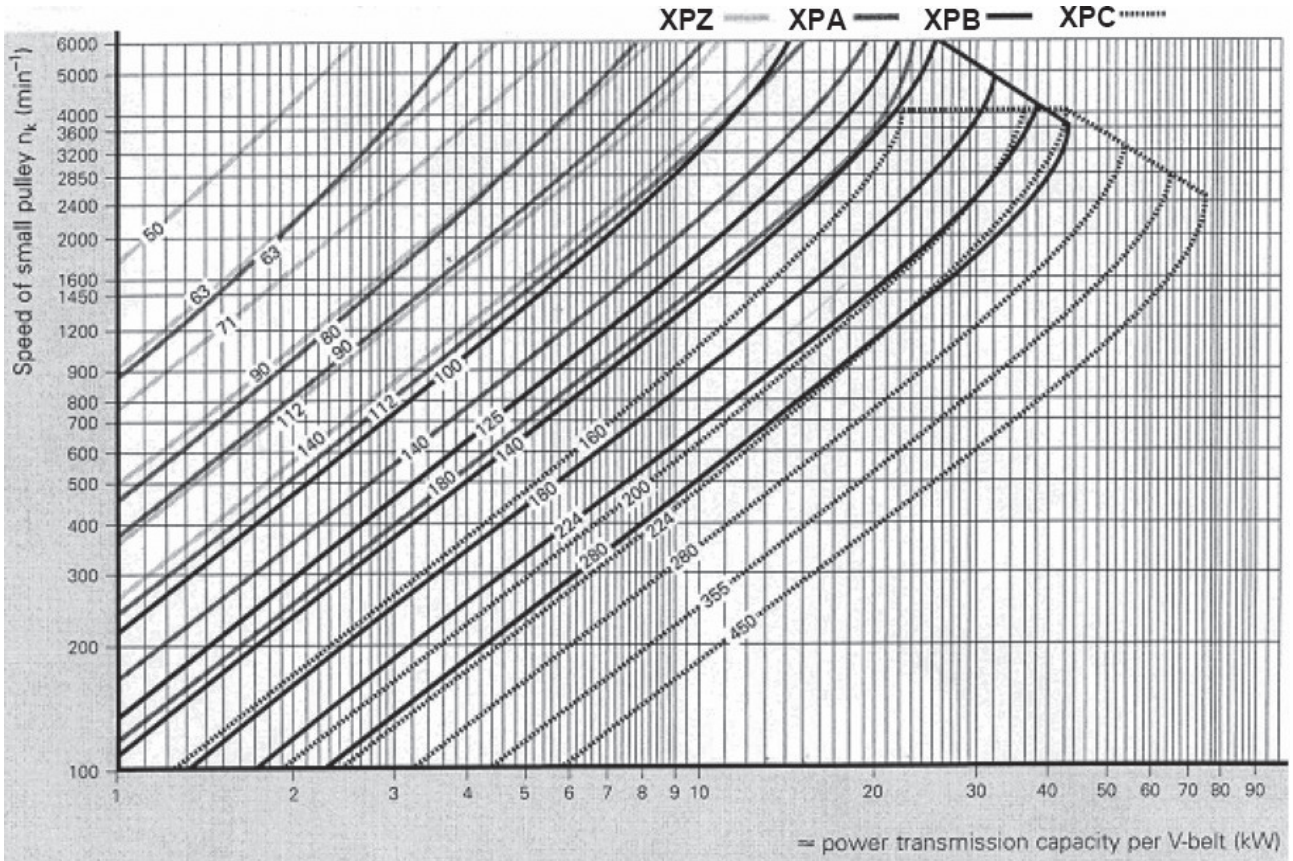
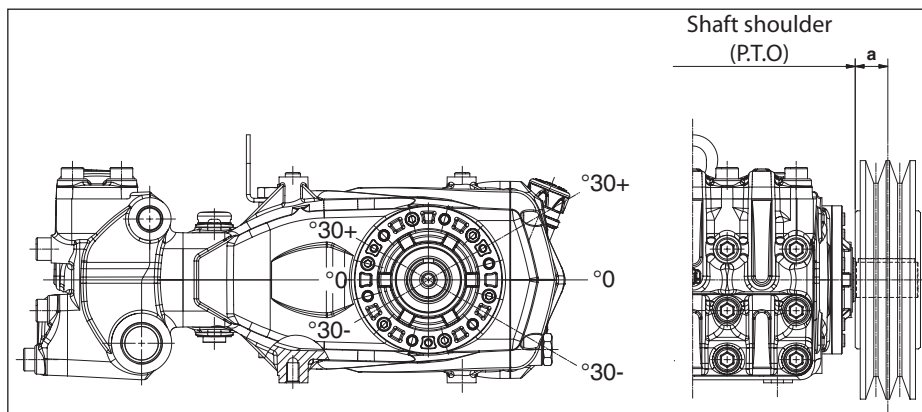

Fig. 7
Fig. 10
For these pump models, we recommend use of 3 XPB belts (16.5x13 serrated). Use an XPC profile only for long durations. Both the characteristics and transmissible power of each belt can be verified in the diagram in Fig. 7, in relation to the number of rpm normally declared by the manufacturer. Minimum duct pulley diameter (on pump shaft): ≥ 160 mm. The radial load on the shaft must not exceed 4500 N (value necessary for Layout definition). The transmission is considered adequate if the load is applied to a maximum distance $a = 50$ mm from the shaft shoulder (P.T.O) as shown in Fig. 10.
- b) Use high performance belts – for example **XPB** instead of **SPB** – as a lower quantity of belts for the same transmitted power may be necessary and a consequent shorter resulting distance compared to the shaft shoulder (P.T.O) "a" of Fig. 10.
- e) Follow the direction of the belt pull as shown in Fig. 10 for other needs, contact our **Technical** or **Customer Service Departments**.